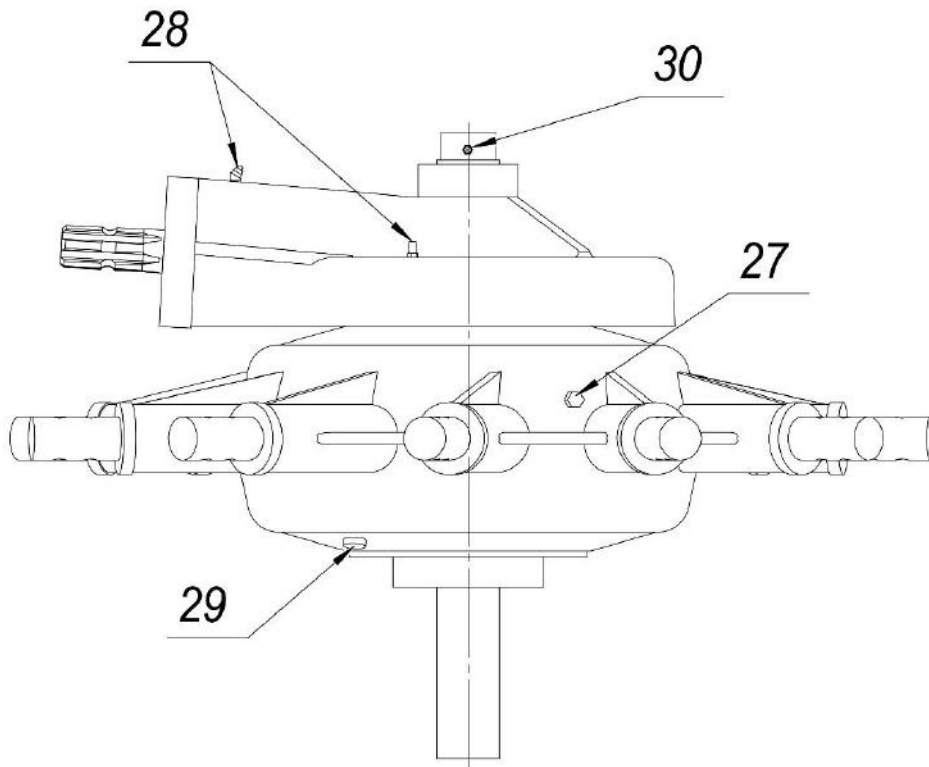

Fig. 20
- inspect oil level in the gear, and top it up to the level of side plug 27 in the body (figure 20). In the case of noticing oil leak, eliminate the reason and replenish the oil up to the required level;
- grease the teeth ground clearance adjustment system through grease nipple 30 (Figure 20)